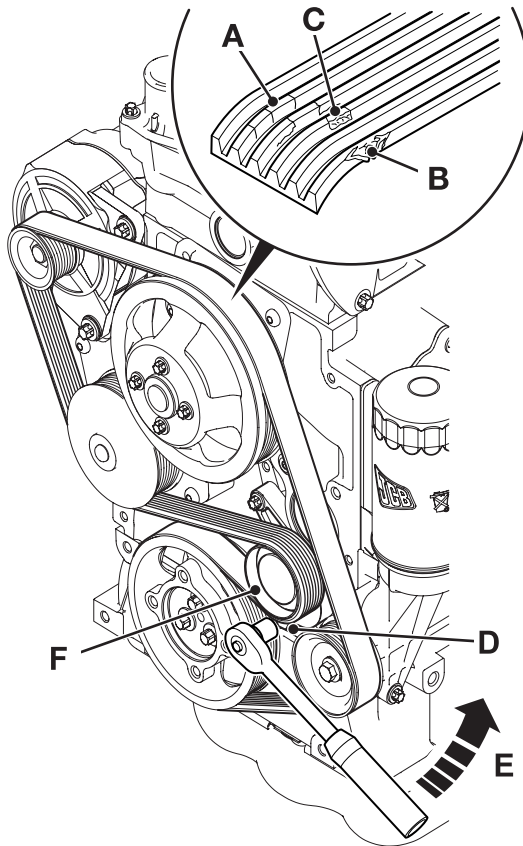

Fig 40.
- 2 Inspect the belt for cracks **A**, fraying **B** or missing pieces **C**. ⇒ Fig 40. \(□ 3-1-62\).
- 6 Fit the new drive belt around the pulleys. ⇒ Fig 40. \(□ 3-1-62\).